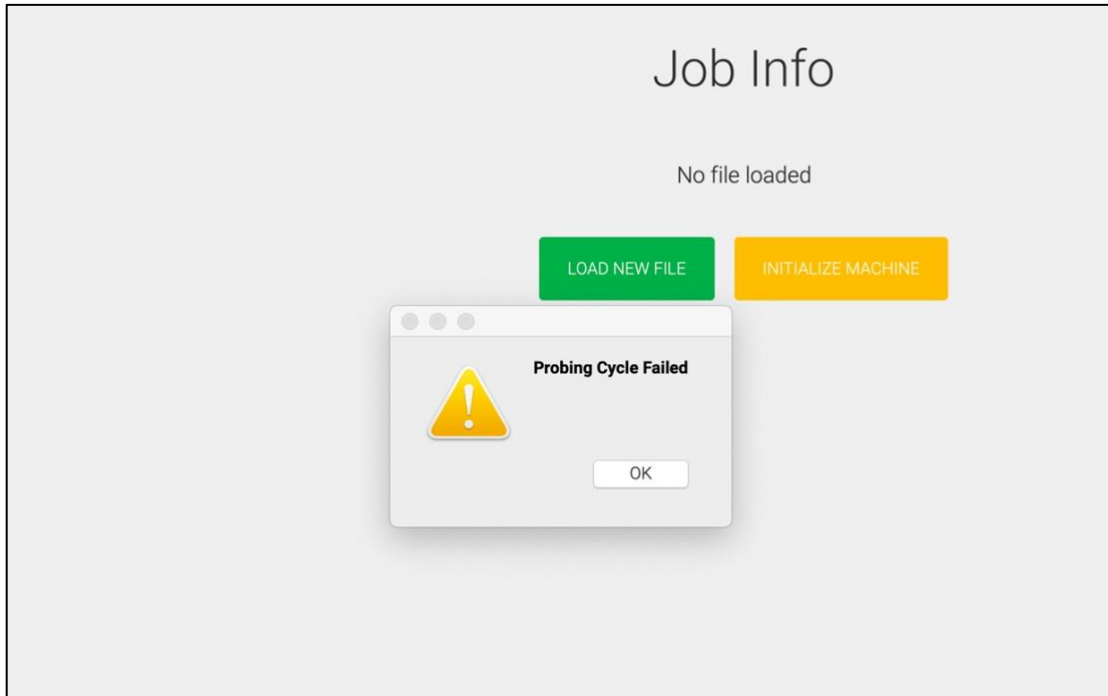

Figure 10
13. If you receive an error message, see **Fig. 10**, repeat steps 1–12 to run a new probing sequence.